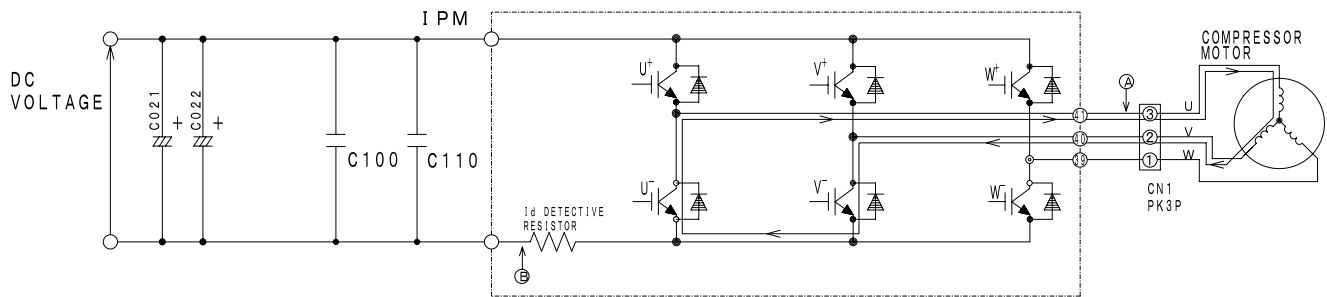

Fig. 4-4 Power module circuit (U⁺ is OFF, V⁻ is ON)
At point ⑥: U⁺ is chopped (OFF), V⁻ is ON (circuit in Fig.4-4)
- (2) When U⁺ transistor is OFF: (by inductance of motor coil) U coil → V coil → V⁻ transistor → U⁻ diode → Point ⑥ (Fig. 4-4)